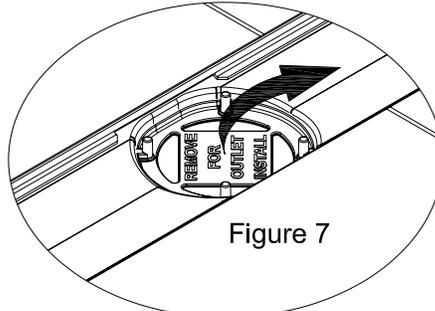

Figure 7
- 10. Remove shipping cover, confirming there is no debris on gasket face. (Figure 7)